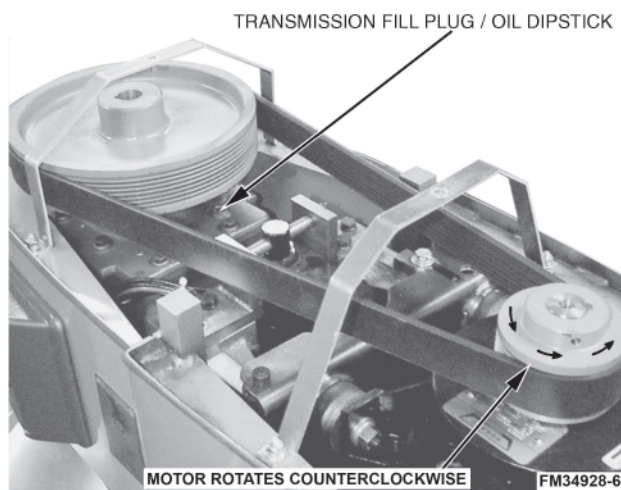

Fig. 2
This mixer is shipped with oil in the transmission. Check oil level before starting mixer (Fig. 2). Refer to Lubrication on page 23 for applicable lubrication procedures.
3. Verify that the motor is turning counterclockwise (Fig. 2). If not, reverse any two lead wires.